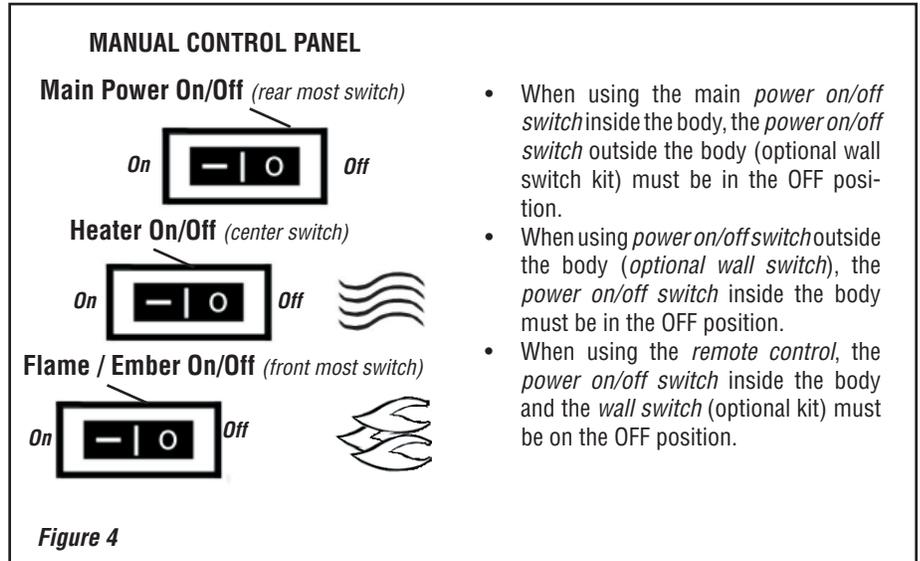

Figure 4
This appliance can be operated either from the manual control panel (see **Figures 4 & 5**) or by using the remote control, wall switch or wall thermostat (optional kits).
1. To control the electric fireplace by remote control, the main power on/off switch should be in the off position. This switch is located on the front left floor of firebox (see **Figures 4 & 5**).
3. Remote On & Off Button - The button on the top left (see A) is the on/off power button. When pressing this button you will hear a beep, this will activate the power to the fireplace. You must then press the display button (B) to activate the lights.